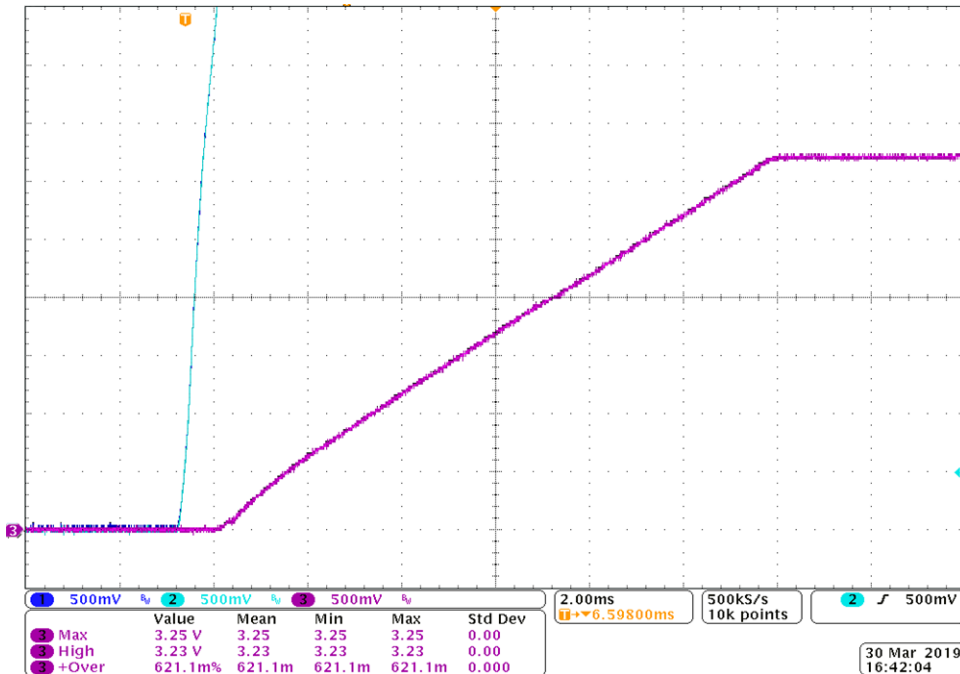

Figure 12. Soft Start With No Overshoot During Start-Up
- When using an LDO with an externally controlled soft-start function, such as the TPS7A90, TPS7A02, TPS7A05, TLV767 device, the proper soft-start value, according to the  $V_{IN}$  slew rate, is required to avoid an overshoot. Figure 12 displays the test results (Green:  $V_{IN}$ ; Red:  $V_{OUT}$ ). The soft-start function makes  $V_{OUT}$  take 12 ms to get ready, so there is no overshoot during start-up.